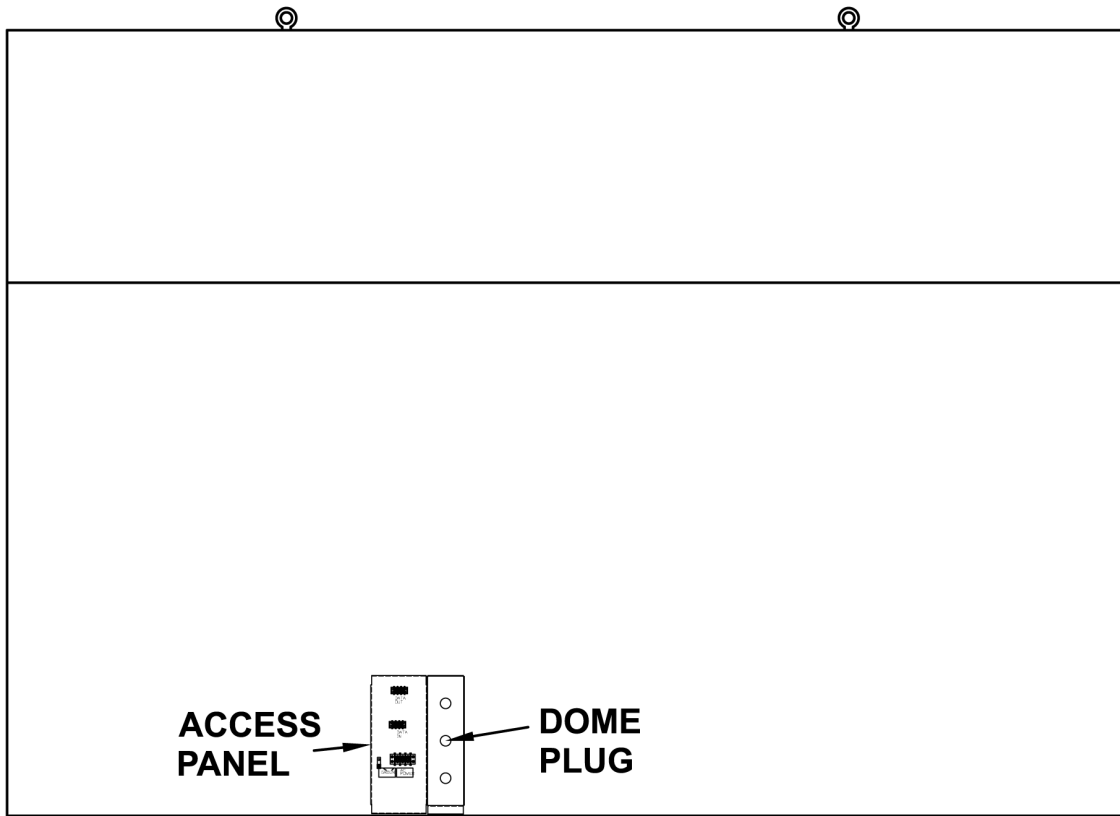

Figure 5 Rear Access Panel
3. Remove the rear access panel and the dome plugs on the plate near the access panel. Figure 5 shows the location of the access panel and the dome plugs.